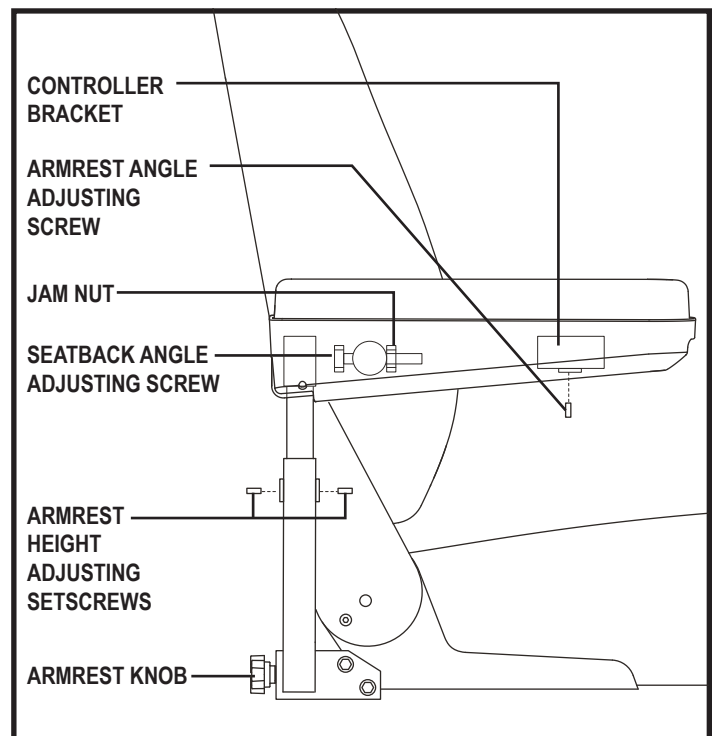

Figure 18. Seatback/Armrest Adjustment
**See figure 18.**
1. Locate the two armrest knobs on each side of the armrest receiver bracket. **See figure 18.**
1. Loosen the two setscrews located on the armrest receiver. **See figure 18.**